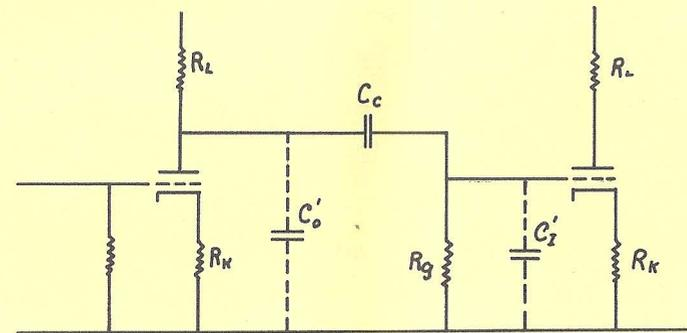

Fig. 1
Let R_g in Fig. 1 be 390K and it is desired to find the nearest standard value of condenser for C_o that will give a loss of 1 db at 20 cycles. Set the indicator to -1 on the (db) scale. Move the slide and set 2 on the (F) scale to the hair line. Re-set the indicator to .39 on the (X_c) scale. Under the hair line read .4. Determining the decimal point gives a value of .04 μf . If this value is not convenient and say .05 μf is more suitable, move the slide till .5 (for .05 μf) is at .39 (for 390K) and read $F = 16.2$ for -1 db response. The impedance Z in polar form represented by the coupling as a load on the tube may be solved by the relation of $|Z| = \frac{R}{\cos \theta}$. Cos θ and θ may be read directly for any value of frequency when C is set to R. The (C) and (X_c) scales are used to compute $\frac{R}{\cos \theta}$. Set the left index of scale (C) to R on (X_c).
At high frequency the circuit in Fig. 1 resolves into the equivalent circuit of:-